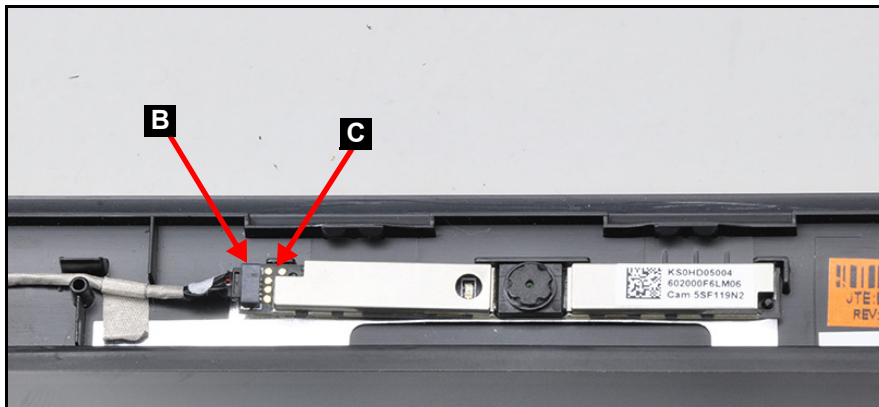

Figure 3-61. Camera Connector Location
2. Disconnect the camera cable (B) from the connector (C) (Figure 3-61).